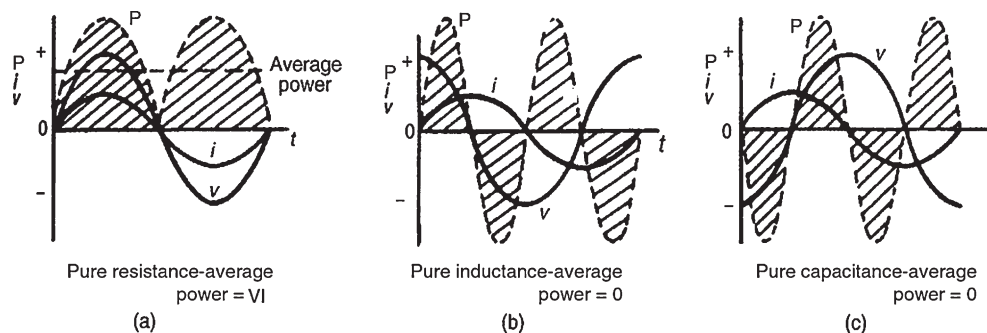

Figure 15.23
In Figs 15.23(a)–(c), the value of power at any instant is given by the product of the voltage and current at that instant, i.e. the instantaneous power, $p = vi$, as shown by the broken lines.
$P = VI = I^2 R = V^2 / R$ watts (V and I being r.m.s. values) See Fig. 15.23(a)
- (b) For a purely inductive a.c. circuit, the average power is zero. See Fig. 15.23(b)
- (c) For a purely capacitive a.c. circuit, the average power is zero. See Fig. 15.23(c)